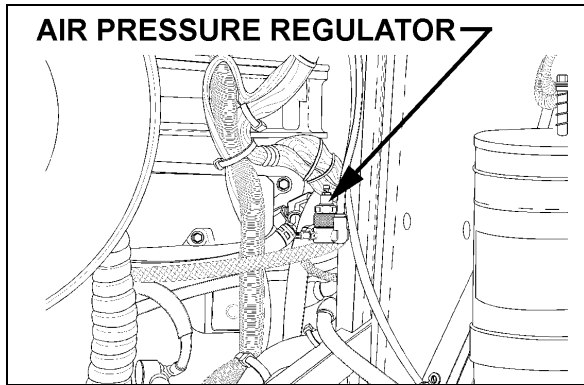

FIGURE 21: AIR PRESSURE REGULATOR
17. Adjust the servo clutch pressure to 40 psi with the air pressure regulator. For more information, refer to Section 12, "BRAKE AND AIR SYSTEM", under heading "AIR PRESSURE REGULATOR". The regulator is located at back of engine compartment, on R.H. side (Fig. 21).
15. Adjust the servo clutch pressure to 40 psi with the air pressure regulator. For more information, refer to Section 12, "BRAKE AND AIR SYSTEM", under heading "AIR PRESSURE REGULATOR". The regulator is located at back of engine compartment, on R.H. side (Fig. 21).
21. Adjust the retarder pressure to 80 ± 3 psi with the air pressure regulator. For more information refer to Section 12, "BRAKE AND AIR SYSTEM", under heading "AIR PRESSURE REGULATOR". The air pressure regulator is located at back of engine compartment, on R.H. side (Fig. 21).